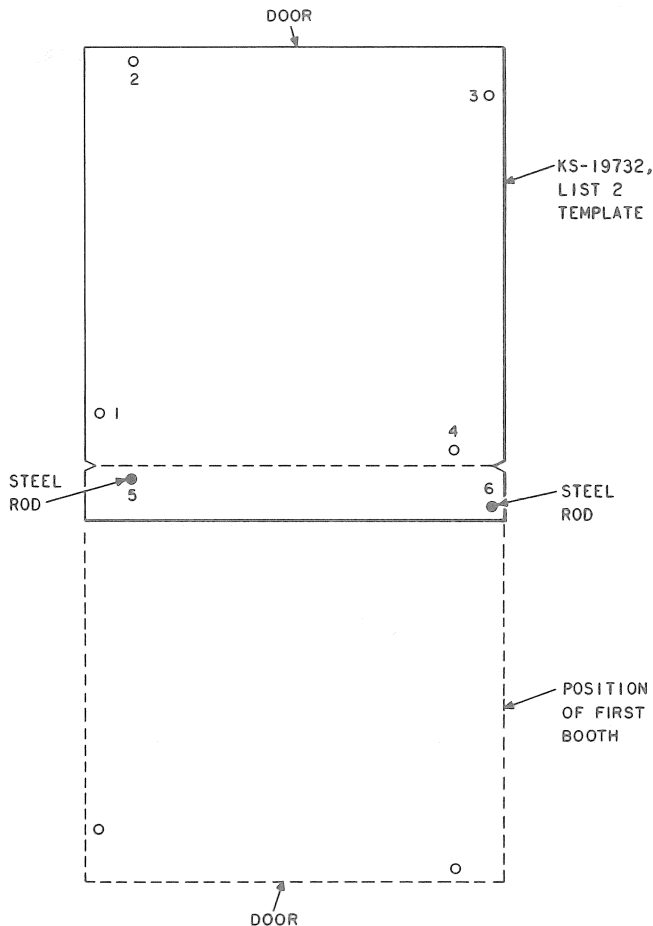

Fig. 18—Back-to-Back Layout for Drilling Mounting Holes
(1) Perform steps outlined in 3.18 or 3.19 for the front line-up.
(2) Move the template behind the first position as shown in Fig. 18 and align template holes 5 and 6 with previously drilled holes 2 and 3, respectively. Insert the two steel rods in these holes.
(3) Drill 1/4-inch holes at positions 1, 2, 3, and 4 to a depth of approximately 1-1/4 inches.
(4) If additional booth positions are required, move the template to the next position and perform operations in (2) and (3).